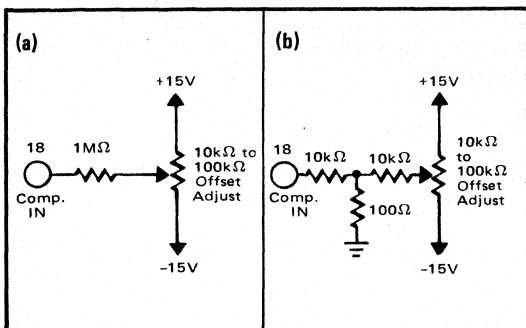

FIGURE 12. Two methods of connecting optional offset adjust with a  $\pm 1.0\%$  of FSR range of adjustment.
Initial gain and offset errors are factory trimmed to  $\pm 0.05\%$  of FSR at  $+25^\circ\text{C}$  for both the 0 to  $+10$  and  $\pm 10\text{V}$  ranges. No external adjustment is required to obtain initial absolute accuracies of  $\pm 1$  LSB. When using one of the other input signal ranges or when even greater initial accuracy is desired these errors may be trimmed to zero by connecting external potentiometers as shown on in Figures 12 and 13.
**OFFSET** — Connect the OFFSET potentiometer as shown in Figure 12. Sweep the input through the end point transition voltage that should cause an output transition to all bits off ( $E_{IN}^{OFF}$ ).